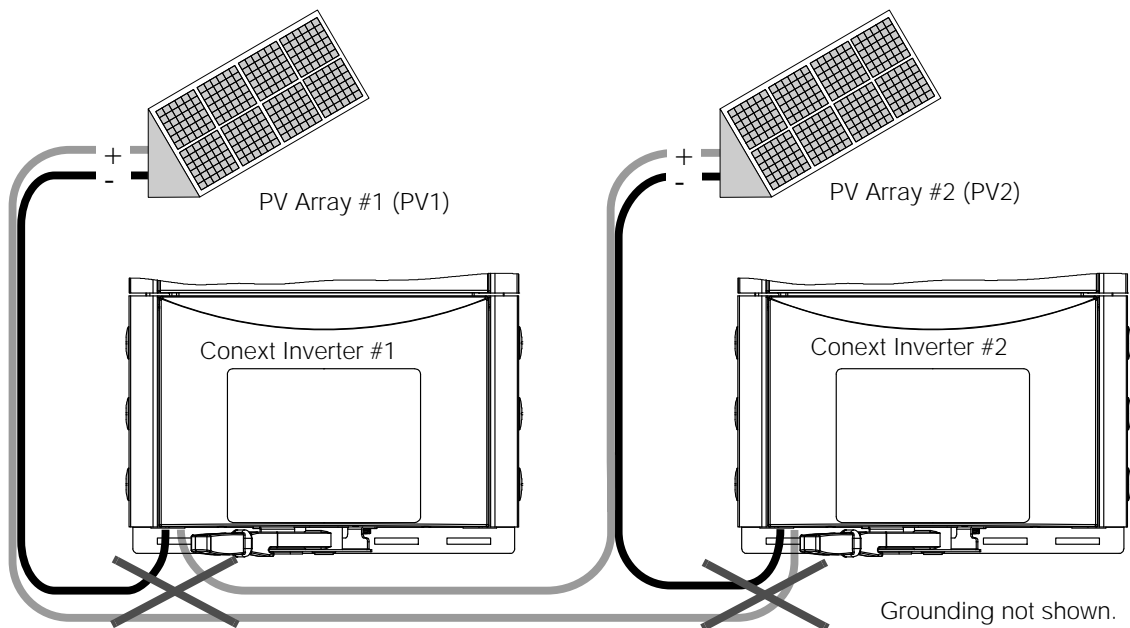

Figure 3-16 Improper multiple Conext Inverter connections
- Do not connect PV1 positive (+) and PV2 negative (-) to Conext Inverter 1 and PV2 positive (+) and PV1 negative (-) to Conext Inverter 2. As shown in Figure 3-16 on page 3-16, this configuration can cause short circuit failures in the Conext Inverters and could also generate hazardous voltages within the system.